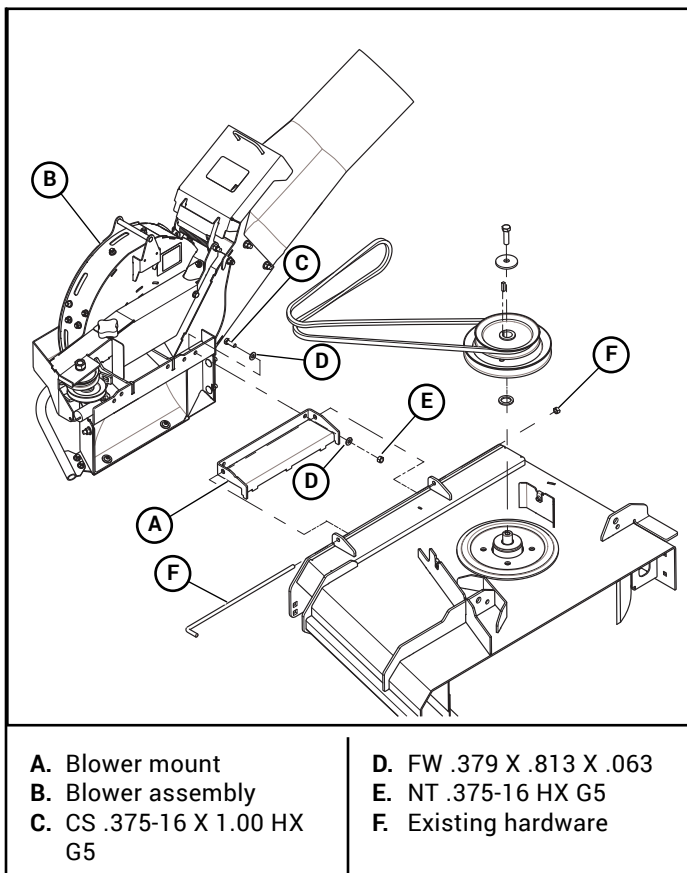

Figure 3-36
- Assemble the blower mount to the blower assembly. Figure 3-36
- Attach the blower assembly to the deck by inserting the rod through the discharge chute bracket and the blower mount and secure with a nut. Figure 3-36
4. Raise the discharge cover on the blower housing. Slide the outlet adapter into place on the blower outlet. Secure in place with the discharge cover latching the rod handle of the outlet adapter. Figure 3-4, Figure 3-11, Figure 3-18, Figure 3-25, Figure 3-31, or Figure 3-36